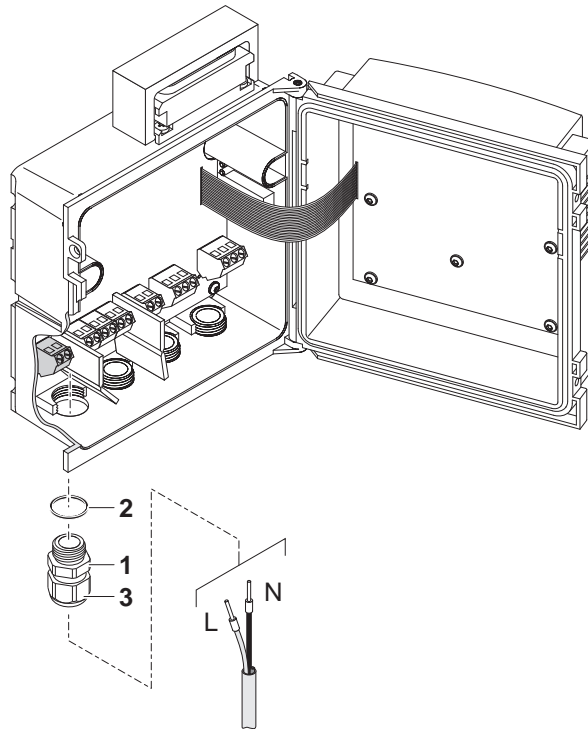

Fig. 3-26 Inserting the supply line.
- 6 | Screw a cable gland (pos. 1 in Fig. 3-26) with sealing ring (pos. 2) into the enclosure below the power supply connection.
- 7 | Loosen the coupling ring (pos. 3).
- 8 | Feed the power line through the cable gland into the enclosure. When doing so bend the flexible divider (pos. 4) to the right.
| 10 | Tighten the coupling ring (pos. 3 in Fig. 3-26). |